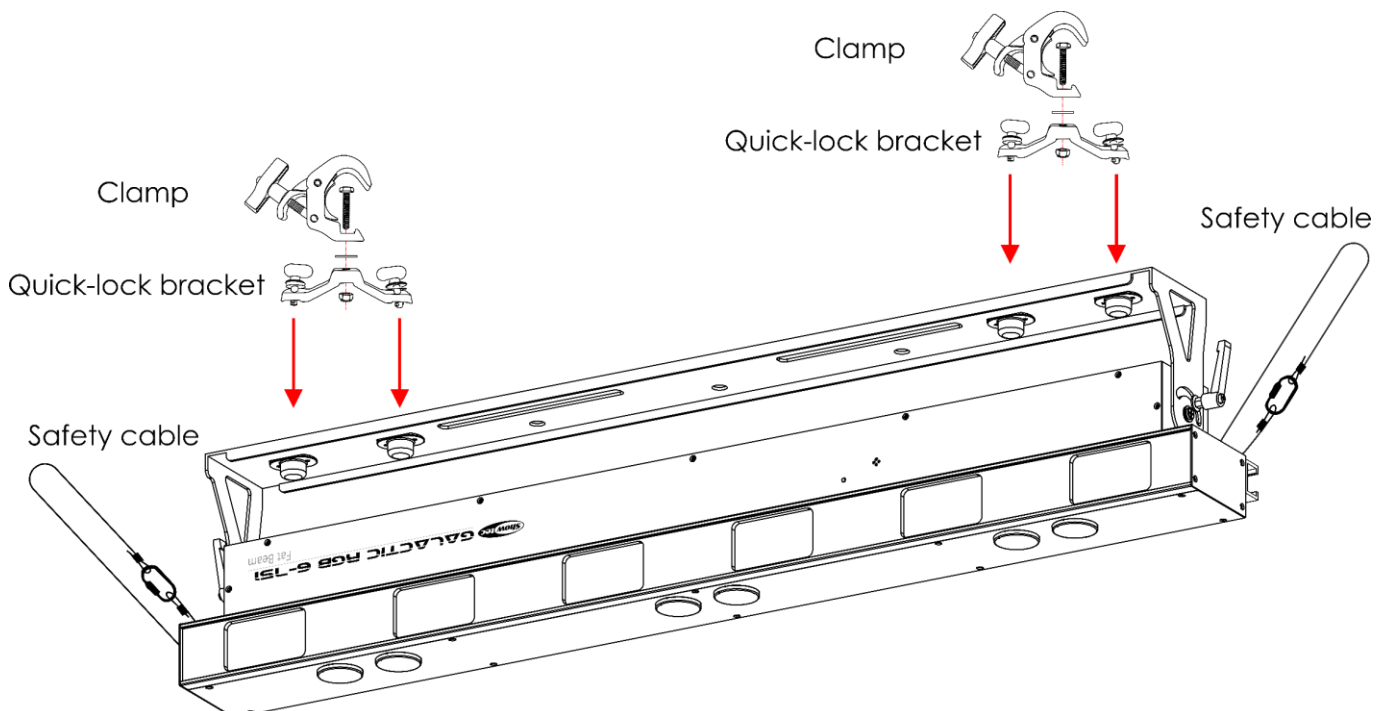

Fig. 08
- 01) Use quick-lock brackets to attach the device to the supporting structure, as shown in Fig. 08. Make sure that the device cannot move freely.
- 02) Secure the device with a secondary suspension, for example a safety cable. Make sure that the secondary suspension can hold 10 times the weight of the device. If possible, the secondary suspension should be attached to a supporting structure independent of the primary suspension. Put the safety cable through both **safety eyes (04)**, as shown in Fig. 08.